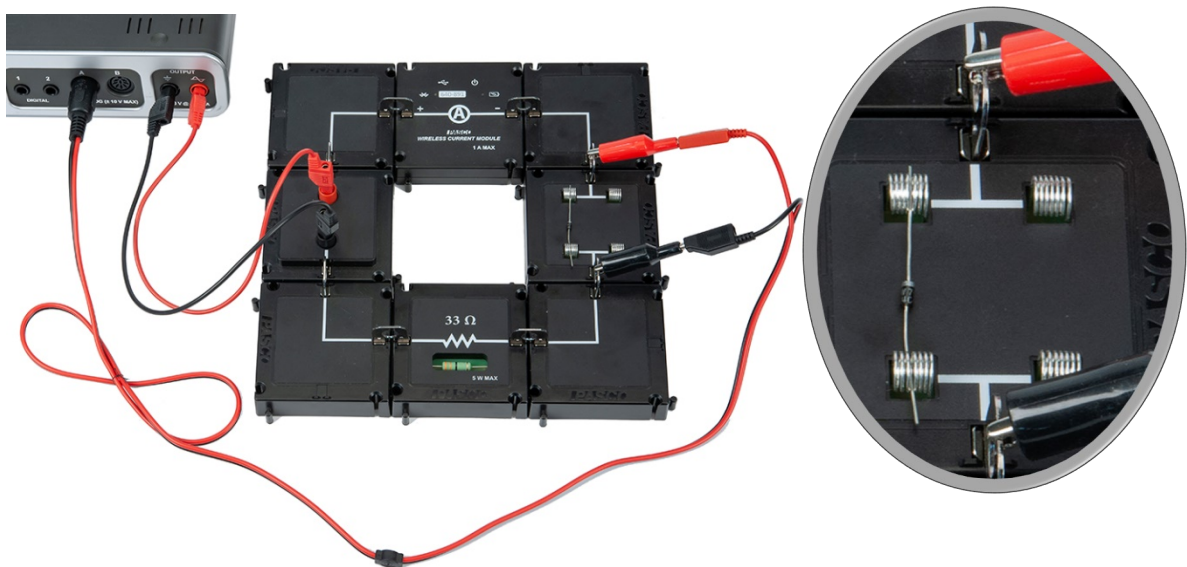

Figure 3: Diode "up" Setup
- Replace the light bulb module with the spring clip module and place a diode in the spring clips as in Figure 3. Note that the diode looks like a small black resistor with one grey end. Arrange the diode so the grey end is "up" toward the red lead from the 550 Interface.